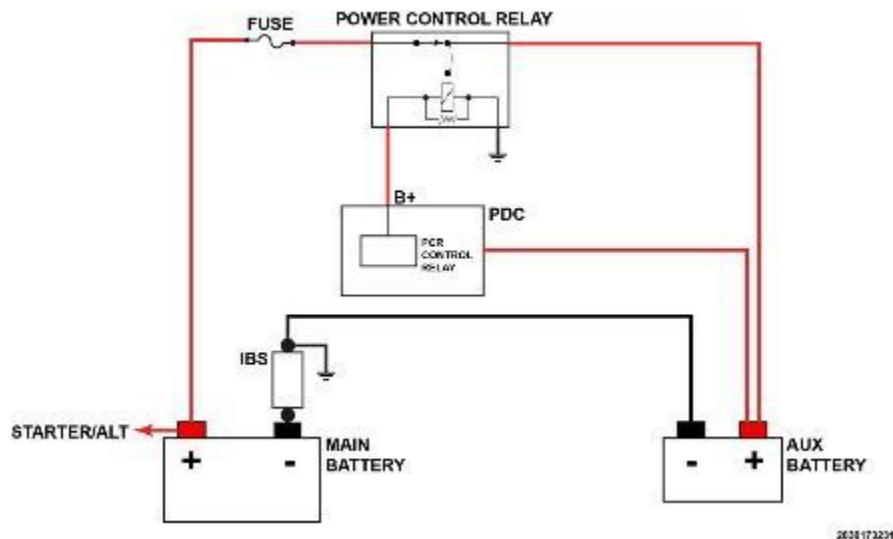

Figure 92 – Dual Battery System
1. On this dual battery system the auxiliary battery ground cable connects to the main battery cable end (shown in generic graphic) and grounds through the main battery ground cable connection to the body, chassis or engine (depending on vehicle). Therefore, simply disconnecting and isolating the main battery negative cable clamp from the main battery post will not isolate the auxiliary from the vehicle's electrical system. The auxiliary battery will still be grounded through it's connection to the main battery negative cable end. If both battery negative cables are not isolated it will result in the vehicle electrical system and Power Distribution Center (PDC) still having battery connection which can cause vehicle wiring damage or deployment of air bags on re-connection (Figure 92). In Service Library, see 08 - Electrical / 8F - Engine Systems / Battery System / Standard Procedure / Battery Disconnect - Dual 12 Volt Battery System.